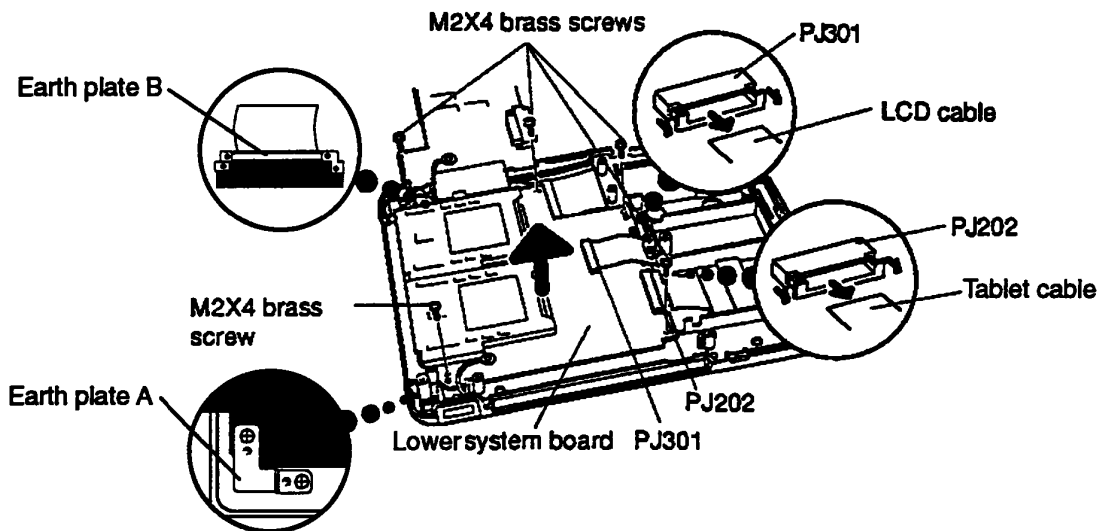

Figure 4-22 Removing the System Board
6. Remove five M2x4 brass screws (Figure 4-22). Note that one of the screws holds earth plate A in place, and two of the screws hold earth plate B in place.
8. Disconnect the LCD cable from PJ301 and the tablet cable from PJ202 on the system board (Figure 4-22).
9. Lift the system board out of the LCD assembly (Figure 4-22).
2. Connect the **LCD cable** to **PJ301** and the **tablet cable** to **PJ202** (Figure 4-22).
3. Position the two earth plates and secure them and the **lower system board** with **five M2x4 brass screws** (Figure 4-22). Be sure to align **earth plate B** making the screw holes visible beneath the plate.